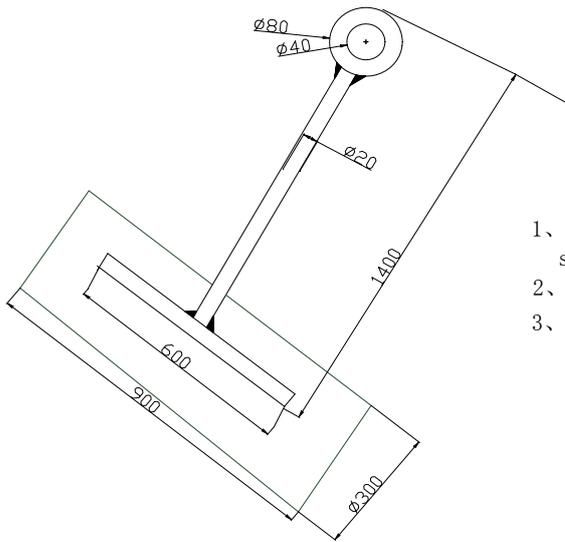

Figure2
4. The making and size of the upper tower is shown in figure 2. Its requirement: solid welding; no leak at the weld zone; the earth lug must be welded 20cm away from the ground (clearly visible). It will be connected to the lightning grounding device.